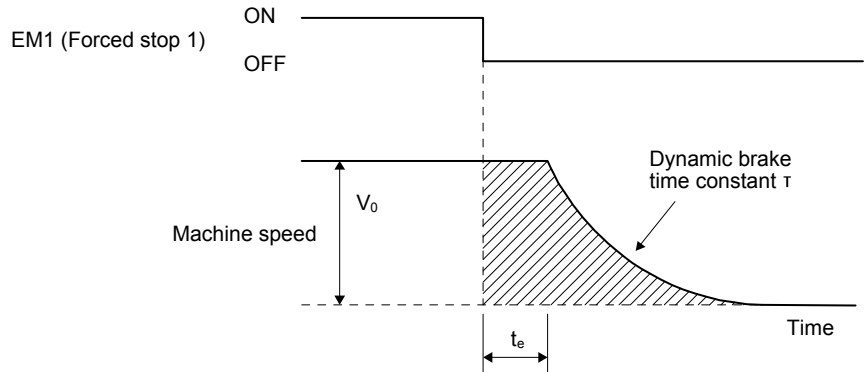

Fig. 10.3 Dynamic brake operation diagram
(1) Calculation of coasting distance
Fig. 10.3 shows the pattern in which the servo motor comes to a stop when the dynamic brake is operated. Use equation 10.4 to calculate an approximate coasting distance to a stop. The dynamic brake time constant τ varies with the servo motor and machine operation speeds. (Refer to (2) of this section.)